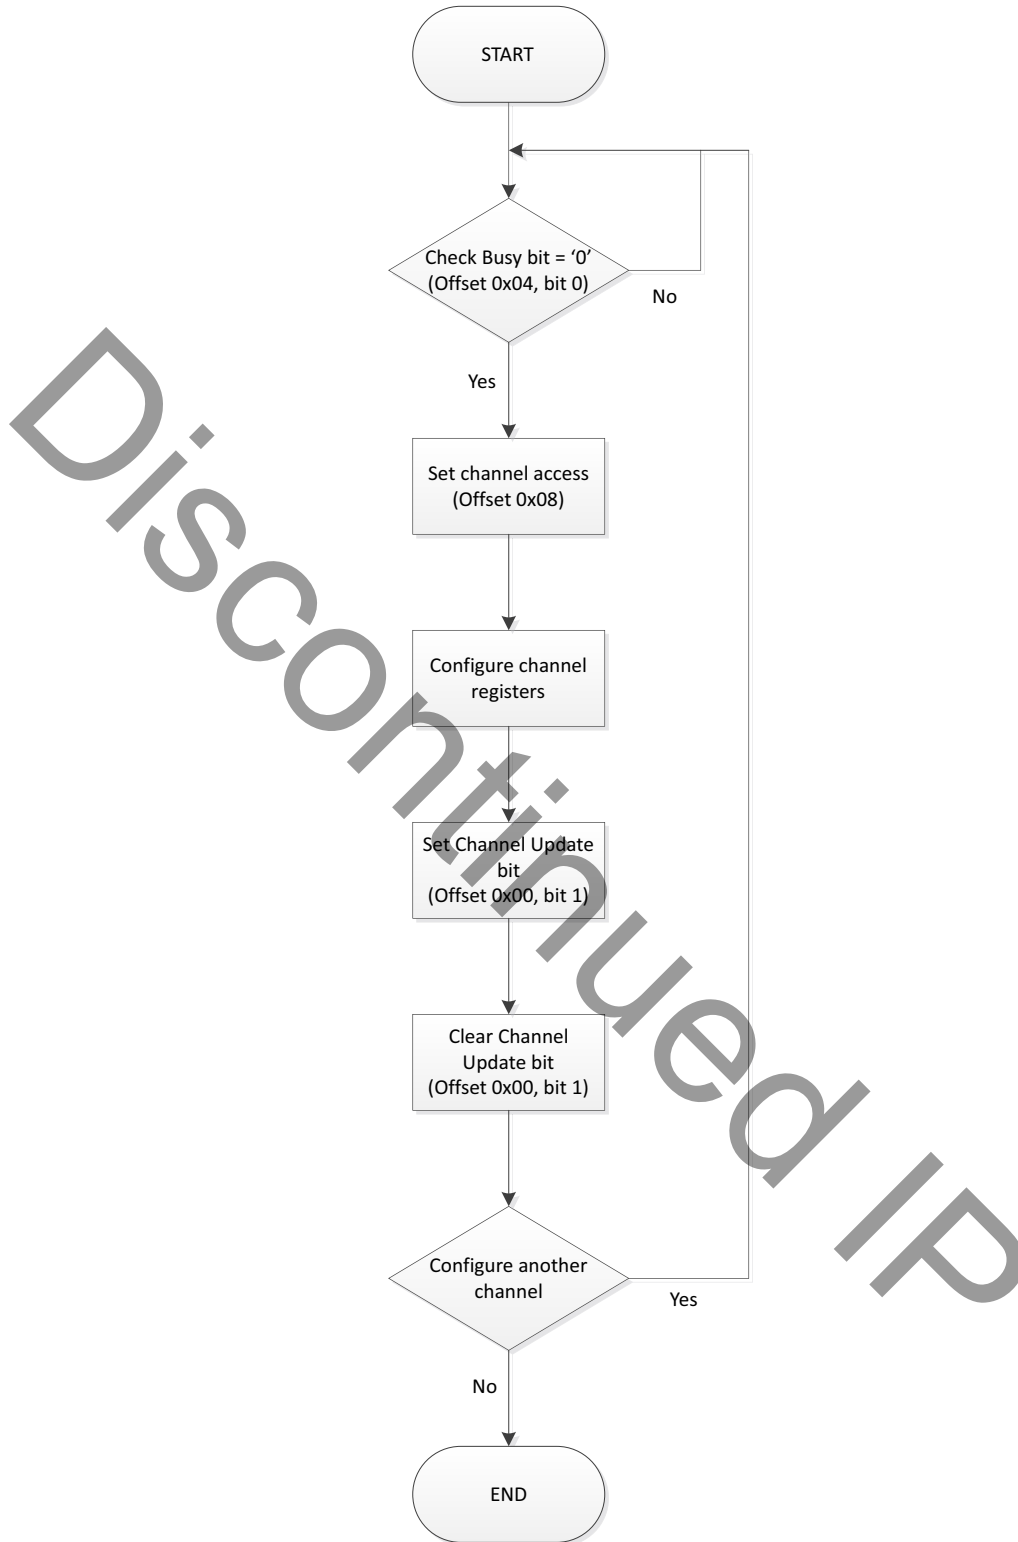

Figure 2-3: Configuration of Channel Registers Flowchart
5. Repeat steps 1-4 for another channel. See Figure 2-3.
This register is used when accessing channel space registers. Always set the channel first as shown in Figure 2-3.